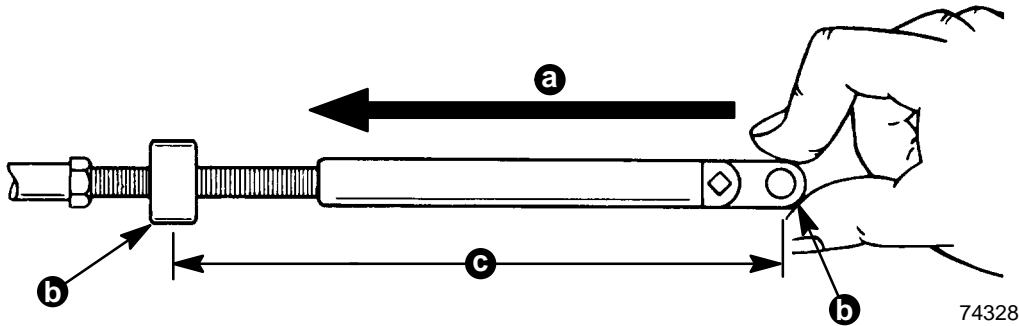

Figure 1.
1. Check drive unit shift cable dimension with the unit shifted into forward gear (Figure 1).